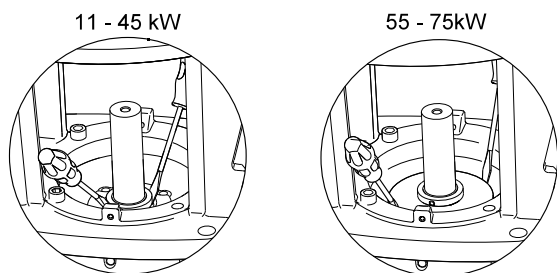

Fig. 9 Removing the shaft seal
9. Pull shaft seal (pos. 105) off pump head (pos. 2) and free of shaft (pos. 51) using two screwdrivers. See fig. 9.